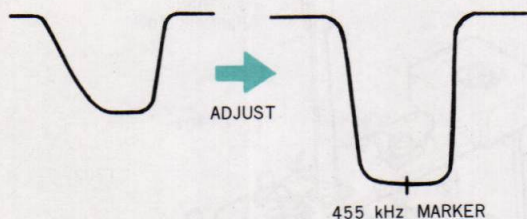

Fig. 3-12 A-m i-f frequency response
2. Adjust IFT301 to obtain a maximum and symmetrical response, as shown in Fig. 3-12.